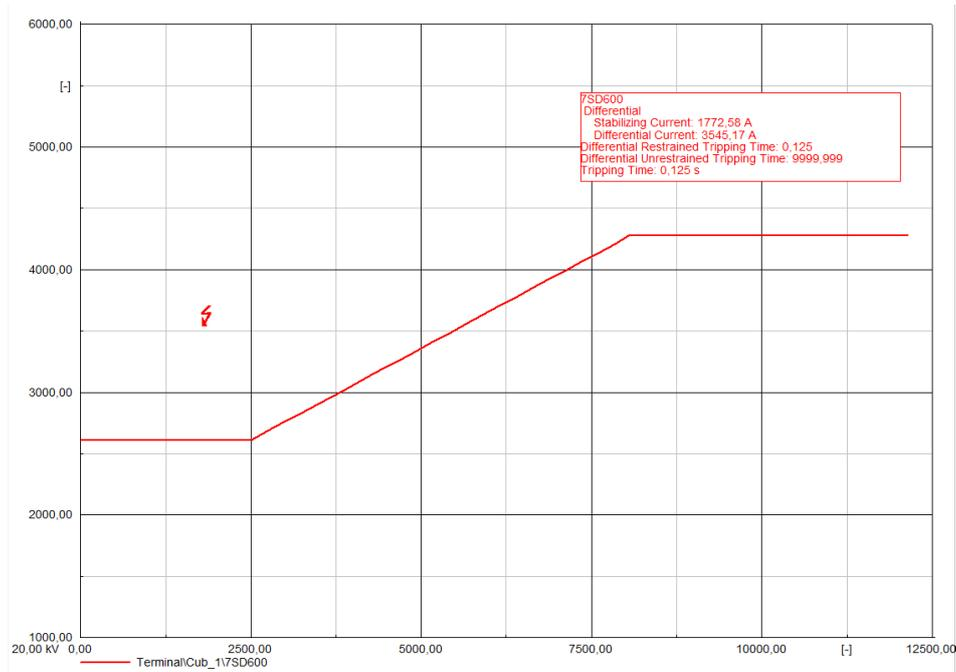

Figure 3.9: Current magnitude based differential protection diagram
- A differential threshold magnitude diagram (magnitude-based differential), as shown in Figure 3.9. This diagram is a Cartesian diagram with the restraint current on the x-axis and the differential operating current on the y-axis.